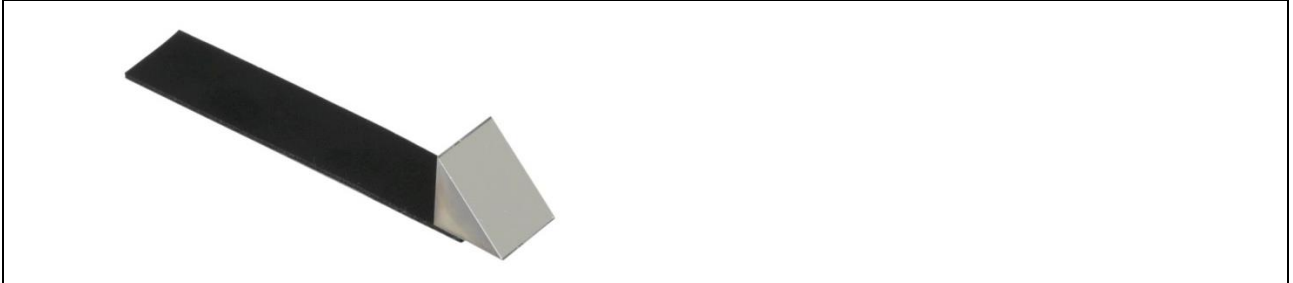

Figure 110: Prism for observation of the vertical distance between probe tip and DUT
2. Place the prism (Figure 110) alongside the desired location. The slanted surface of the prism acts as a mirror that allows you to observe the vertical distance between the probe tip and DUT surface with the DM-CAM. The DM-CAM has to be adjusted so that the vertical distance between the probe tip and DUT can be clearly recognized by means of the prism.